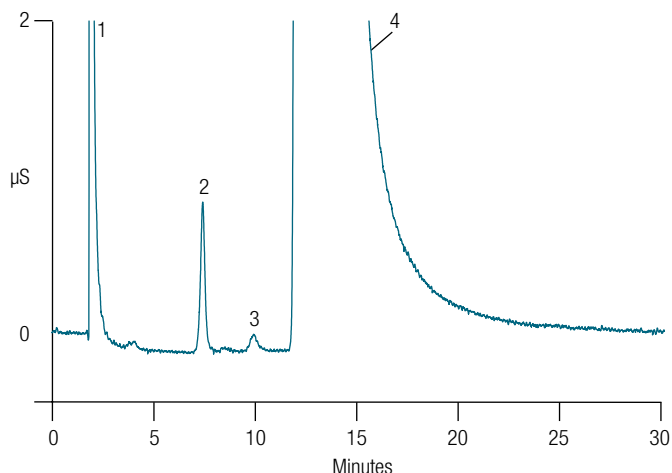

Figure 1. Determination of chloride in acid copper plating bath.
Ion chromatography (IC) provides a convenient method for the determination of chloride in acid copper plating baths. These baths are used for deposition of copper on semiconductor wafers. Monitoring chloride concentration is of interest because it plays an important role in the quality of copper deposition. Compared to standard wet chemical techniques, IC offers improved speed and accuracy for this analysis. An acid copper bath typically contains copper sulfate, sulfuric acid, hydrochloric acid, and a variety of proprietary additives. Figure 1 shows an analysis of a 25 μ L sample of copper plating bath diluted 1:100. Chloride is detected by suppressed conductivity and the Thermo Scientific™ Dionex™ EG40 eluent generator is used to prepare the 30 mM potassium hydroxide eluent on-line. Chloride is separated from the excess of sulfate present in the copper plating bath. This Application Update describes the setup and procedure to determine chloride in a copper plating bath using the Thermo Scientific™ Dionex™ IonPac™ AS15 column.